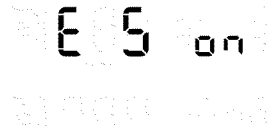

Fig. 1
1. Press and continue to press USER PREF until you reach the preset 12hr energy saving mode -Fig. 1-